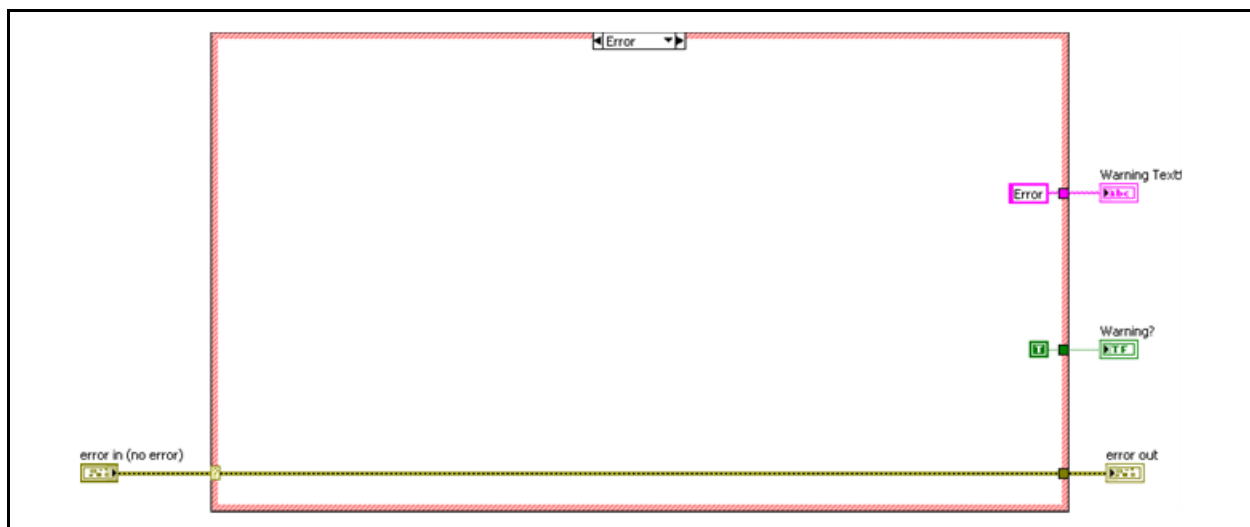

Figure 2. Error Case of Determine Warnings VI
- ☐ Confirm that you have completed the Error case, as shown in Figure 2.